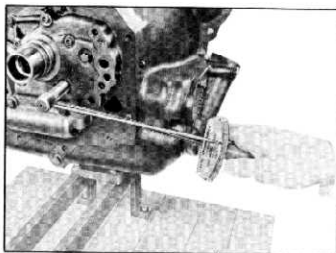

Fig. 122—Tightening Pump to Valve Body Bolts
- Install five self locking bolts through valve body and into pump. Tighten bolts directly above and directly below regulator valve to eight ft. lbs. and remaining bolts to ten ft. lbs. (fig. 122).